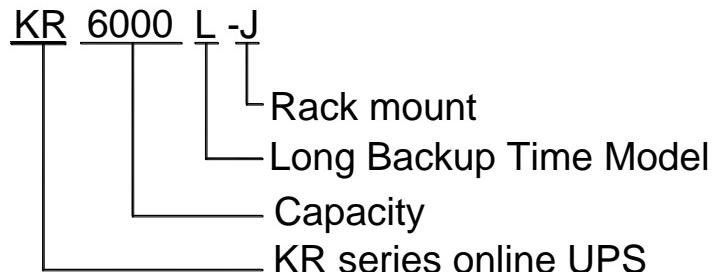

Fig.1-1 KR-J 6KVA model meaning
1. Model Meaning of UPS KR-J 6KVA is shown in Fig. 1-1.
As information shown in Fig.1-1, “KR” means the product is high-frequency UPS of Kehua KR Series. “6000” means that the output capacity is 6KVA. “1110” means that it is 1 phase in and 1 phase out, the output capacity is 10KVA. “L” means that the product is a long backup model. “-J” means that the product is a rack mount type.